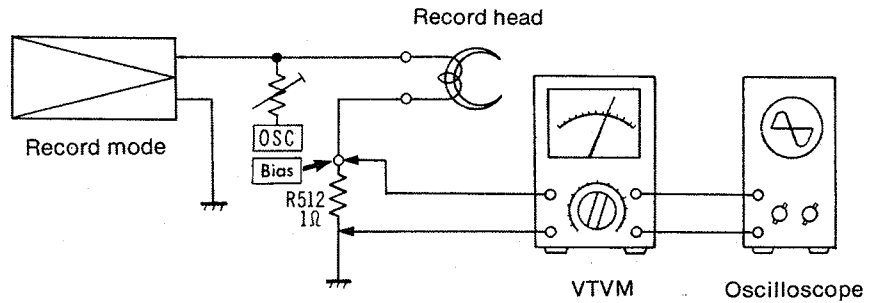
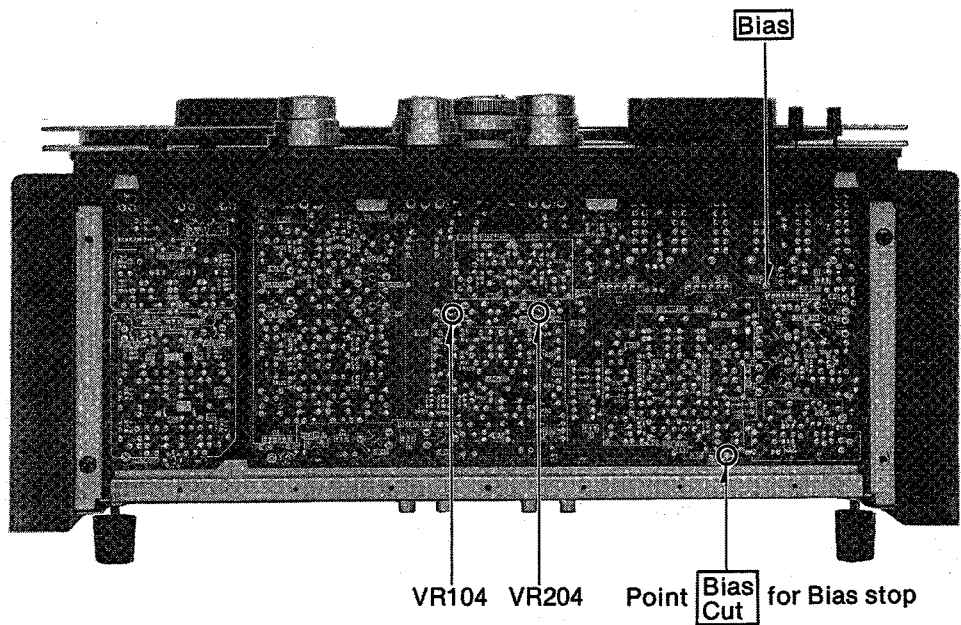

Fig. 49
Fig. 50
Bias current	<ol style="list-style-type: none"> <li>1. Test equipment connections are shown in fig. 49.</li> <li>2. Set the bias selector to "2" position.</li> <li>3. Set the tape speed to 38 cm/s.</li> <li>4. Set the unit to the recording mode.</li> <li>5. Set the recording mode selectors: L-CH to ON and R-CH to OFF.</li> <li>6. Measure voltage across R512 (1Ω) (at point <span style="border: 1px solid black; padding: 2px;">Bias</span>) shown in fig. 50.</li> <li>7. Next set the record mode selectors: R-CH to ON and L-CH to OFF.</li> <li>8. Measure voltage at point <span style="border: 1px solid black; padding: 2px;">Bias</span>.</li> <li>9. Bias current is calculated by formula below.  <math display="block">\text{Bias Current} = \frac{\text{Voltage read on VTVM}}{1\Omega} \text{ (V)}</math> </li> </ol> <div style="border: 1px solid black; padding: 5px; margin: 10px 0;"> <p>Standard value at 38 cm/s tape speed and at "2" position of Bias Selector: around 3 mV</p> </div> <ol style="list-style-type: none"> <li>10. Next set bias selector to "1" position, and measure the bias current in the same way as described in steps 3 to 9 above.</li> <li>11. Confirm that the bias current is 10% less than at the "2" position of the bias selector.</li> <li>12. Next set bias selector to "2" position and confirm that bias current is 10% greater than at the "2" position of the bias selector.</li> </ol> <p>In the same way, measure bias current at 9.5 cm/s tape speed. (Standard value at "2" position of bias selector is around 2.6 mV.)</p>
Recording current	<ol style="list-style-type: none"> <li>1. Test equipment connections are shown in fig. 49.</li> <li>2. Stop the bias oscillation by unsoldering the connection point <span style="border: 1px solid black; padding: 2px;">Bias Cut</span> for bias current ON/OFF shown in figure 50.</li> <li>3. Thread blank test tape QZZORA218EX.</li> <li>4. Set the tape selector to "38" position.</li> <li>5. Set the equalizer selector to "2" position.</li> <li>6. Supply 1 kHz signal (−24 dB ± 3 dB) from AF oscillator, through ATT, to LINE-IN jacks, and adjust ATT until source monitor level at LINE-OUT jacks on VTVM becomes 0.55 V.</li> <li>7. Set the recording mode selectors to "ON" (L-CH) and "OFF" (R-CH).</li> <li>8. Place unit into recording modes.</li> </ol>
1. Test equipment connections are shown in fig. 49.
Overall gain	<ol style="list-style-type: none"> <li>1. Test equipment connections are shown in fig. 36.</li> <li>2. Thread blank test tape QZZORA218EX.</li> <li>3. Supply 400Hz signal (<math>-24 \pm 3</math> dB) from AF oscillator, through ATT, to LINE-IN jacks.</li> <li>4. Adjust ATT so that the output level at LINE-OUT jacks on VTVM becomes 0.55V.</li> <li>5. Place unit into recording mode.</li> <li>6. Set the monitor selector to "Tape" position (both channels).</li> <li>7. Then, measure the output level at LINE-OUT jacks when VTVM indicates 0.55V.</li> </ol> <p>[Adjustment]</p> <ol style="list-style-type: none"> <li>1. If the measured value is not satisfied, adjust the overall gain adjustment VR, VR104 (L-CH) and VR204 (R-CH) shown in figure 50.</li> </ol>